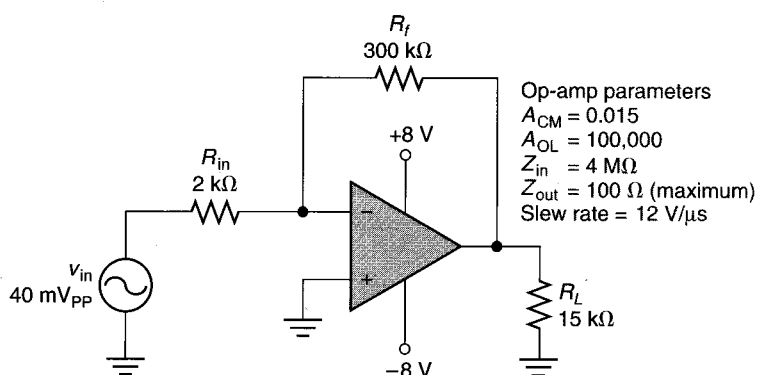

FIGURE 15.58
16. Perform a complete analysis of the amplifier in Figure 15.58.